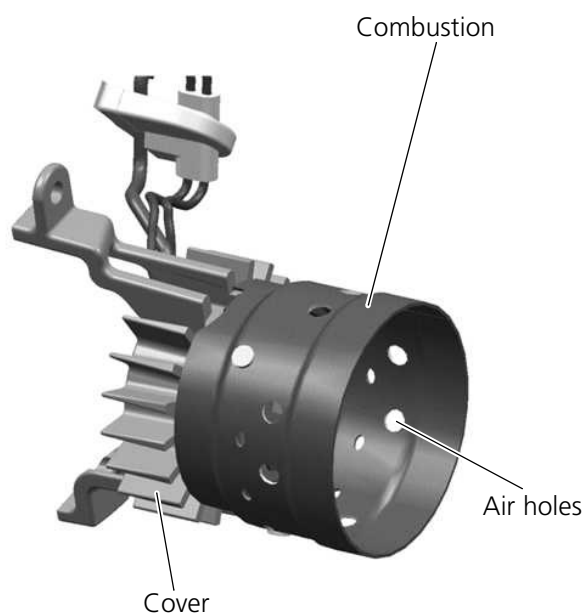

Fig. 505 Visual inspection, entire burner unit
- The combustion chamber (Fig. 505) should not be damaged (e.g. dented). A dented combustion chamber can result in poor combustion or carbonising of the heater.
- The air holes (Fig. 505) in the combustion chamber may not be clogged with coke. Air holes clogged with coke can result in a failure to start or poor combustion.
- The cover and the combustion chamber (Fig. 505) must be permanently connected and may not have any clearance (check by moving slightly).